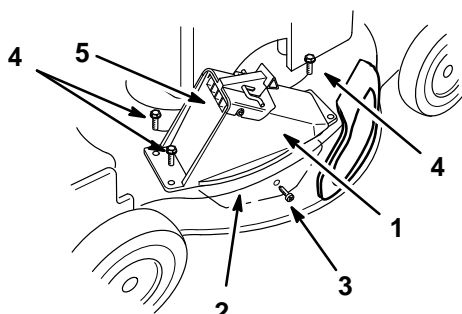

Figure 4
1. Grommet (4)
6. Insert the tongue of the discharge tunnel into the mower (Fig. 4).
7. Align the holes in the tunnel with the grommets in the mower (Fig. 4).
8. Ensure that the hole in the tongue aligns with the hole in the side of the mower (Fig. 4).
9. Install the self-tapping plastite screw supplied with the grass catcher into the side hole and tongue, and partially tighten the screw (Fig. 4).
10. Using three screws supplied with the grass catcher, fasten the discharge tunnel to the mower (Fig. 4).
13. Open and close the tunnel door to ensure that it moves freely (Fig. 4).